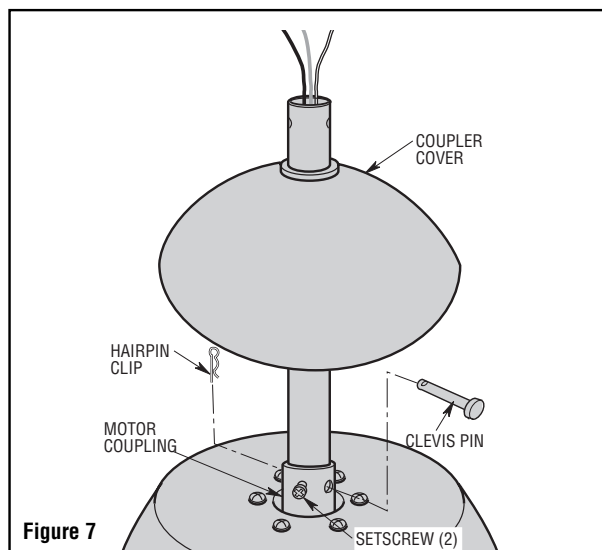

Figure 7
14. While pulling up on the downrod, securely tighten the two setscrews in the motor coupling (Figure 7).
15. Make sure the grommet is properly installed in the coupling cover then slide the coupler cover on the downrod until it rests on the motor housing. Place the ceiling cover over the downrod. Be sure both the ceiling cover and the coupler cover are oriented correctly (Figure 7).